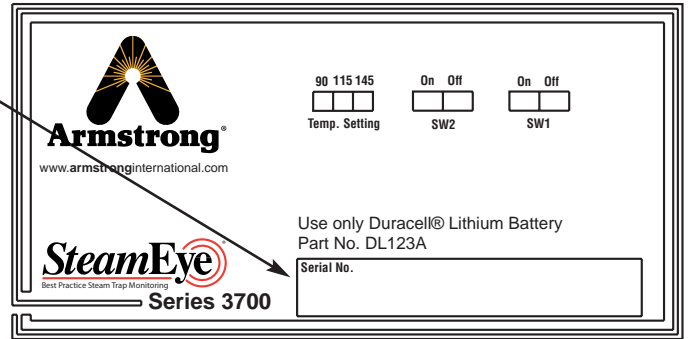

Figure 1. Model URFC 3700 Installation
1. Verify tag number to transmitter as shown in Figure 1.
1. Verify tag number to transmitter as indicated in Figure 1.